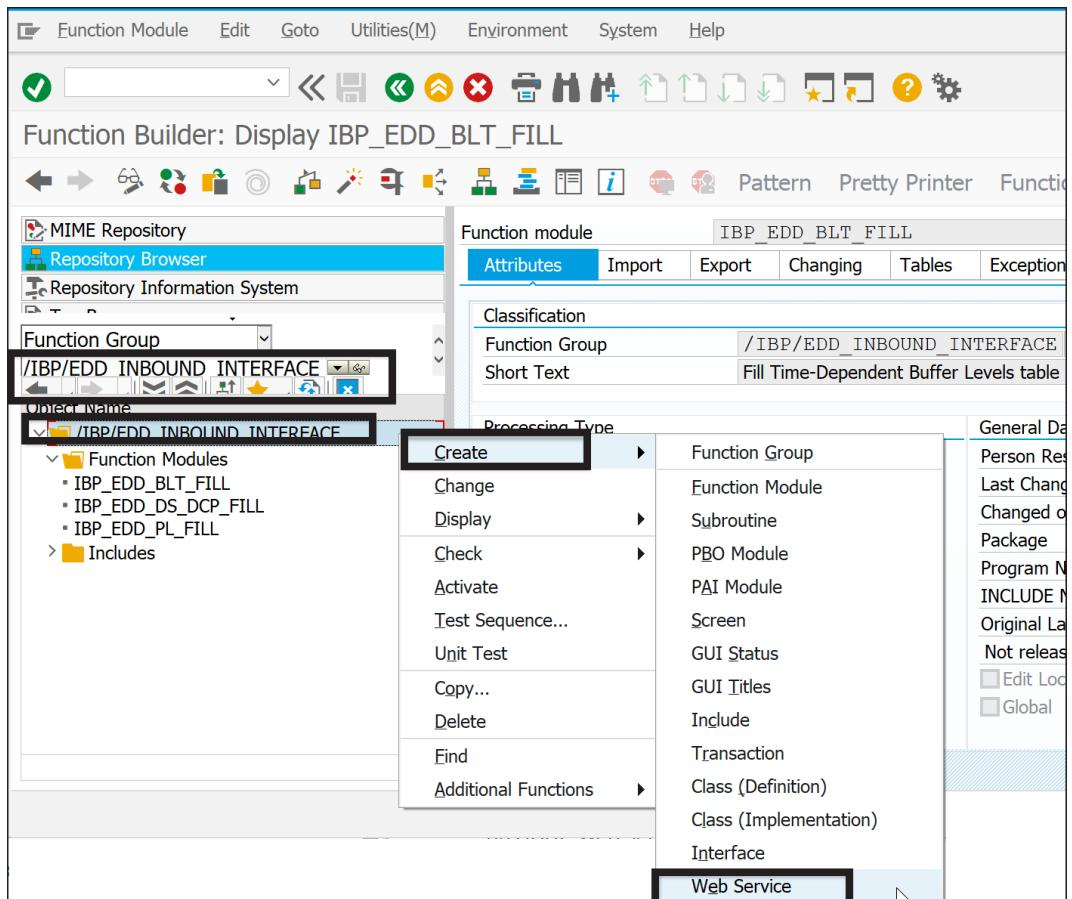

Figure 2.27 The Function Group for Creating the Web Service
- Integrate data derived from DDR in SAP IBP to SAP ERP through the SAP Cloud Platform Integration for data services tasks and the web service for the function group /IBP/EDD_INBOUND_INTERFACE, as specified later in Figure 2.27.
This data store is used to integrate time-dependent buffer levels and decoupling points data from the SAP IBP system to SAP ERP system. This data is used as the input to the DDR planning run executed in SAP ERP. The web service must be created for the function group /IBP/EDD_INBOUND_INTERFACE, as specified later in Figure 2.27.
To enable the inbound integration (SAP IBP to SAP ERP), the prerequisite is to create a web service to integrate time-dependent buffer levels, decoupling points, and DDR product locations. The steps provided in this section should be executed in the SAP ERP system. Figure 2.27 shows the function group to be used for creating the web service.